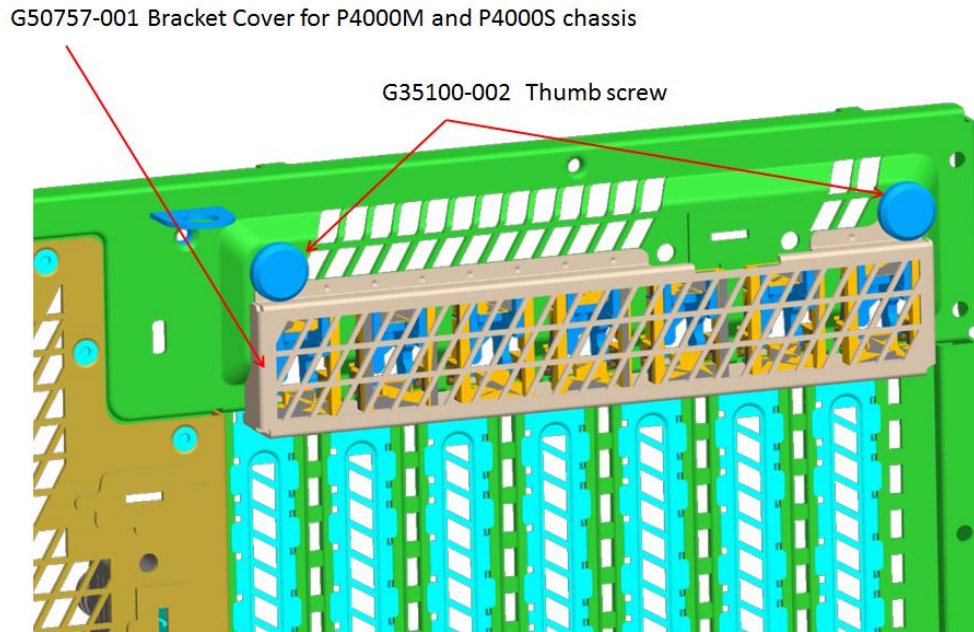

Figure 17. Installation of P4000S and P4000M chassis EMI Bracket Cover
5. Add the EMI Bracket cover using the 2 thumb screws as shown in Figure 17 or Figure 18 per Table 6
P4000BTL Family	Figure 17
P4000CP Family	Figure 17
P4000FP Family	Figure 17
P4000GP Family	Figure 17
P4000SC Family	Figure 17
P4000M Chassis	Figure 17
P4000S Chassis	Figure 17